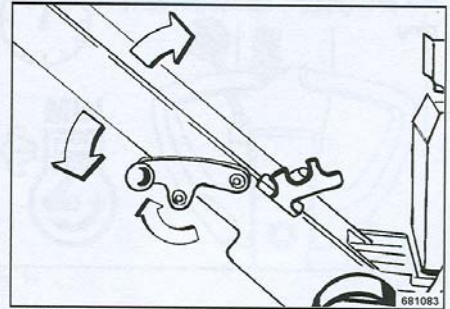

Fig. 20
- Pull the locking lever (Fig. 20) up and fold the steering rod down.